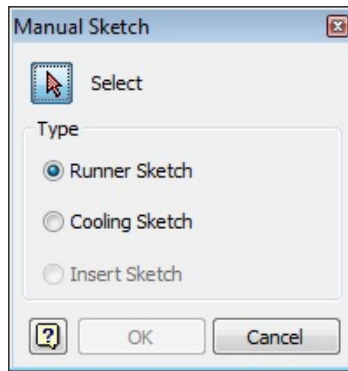

Figure 19-80 The **Manual Sketch** dialog box
1. Choose the **Manual Sketch** tool from the **Auto Runner Sketch** drop-down in the **Runners and Channels** panel in the **Mold Layout** tab of the **Ribbon**; the **Manual Sketch** dialog box is displayed, as shown in Figure 19-80.